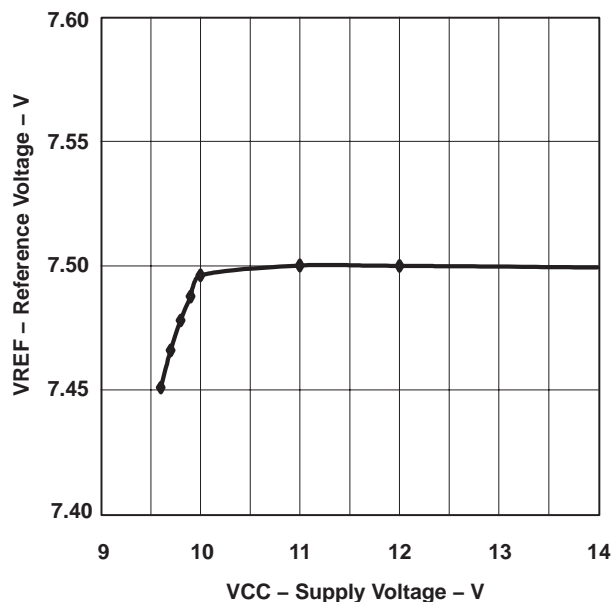

Figure 2
2. Reference variation for $V_{CC} < 10.8\text{ V}$ is shown in Figure 2.